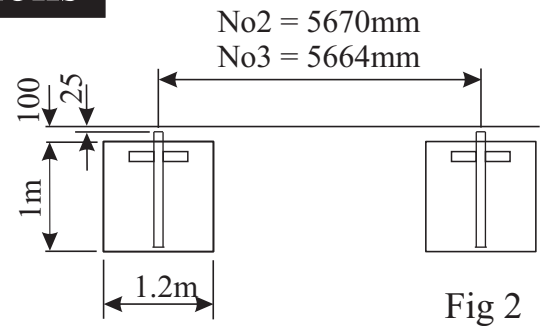

Fig 2
**1 Install Sockets** - Dig holes 1.2x1.2x1.1m deep at centres of 5670mm for No2 or 5664mm for No3 posts, as shown in Fig 2. Concrete the sockets in 25mm below ground level and leave approx 100mm from top of concrete to ground level (to replace turf). Use a spirit level to make sure that the sockets are truly vertical and support until set. Replace the turf extracted when the concrete has cured (allow concrete to set before moving on to step 2). Note: minimum concrete required 1.2x1.2x1m.